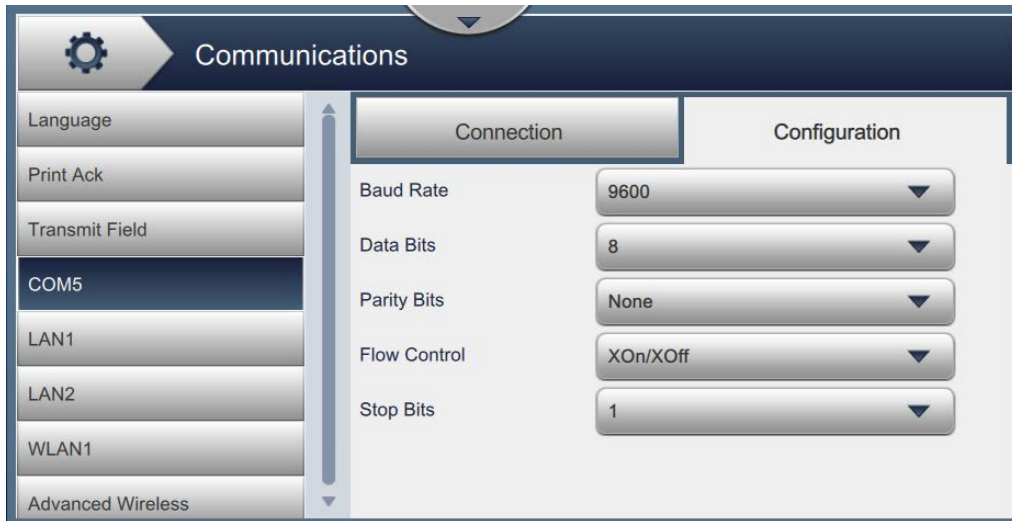

Figure 7-7: COM5 Screen
11. The COM screen with updated parameters appears as shown in Figure 7-7.